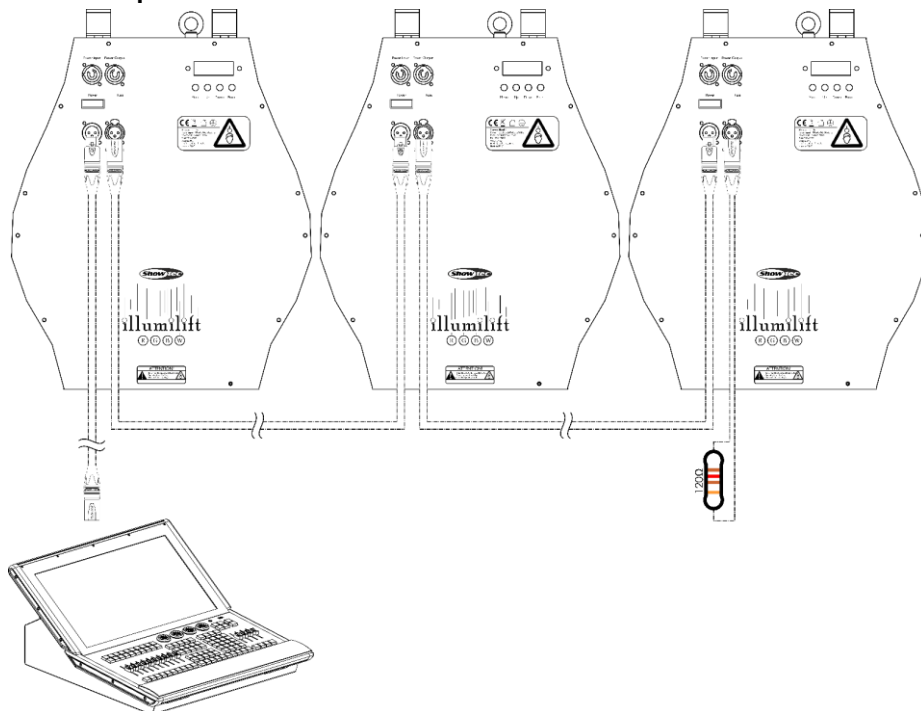

Fig. 04
- 04) Link the units as shown in Fig. 04. Connect the first unit's DMX "out" socket with the second unit's "in" socket, using a DMX signal cable. Repeat this process to link the second, third and fourth units.